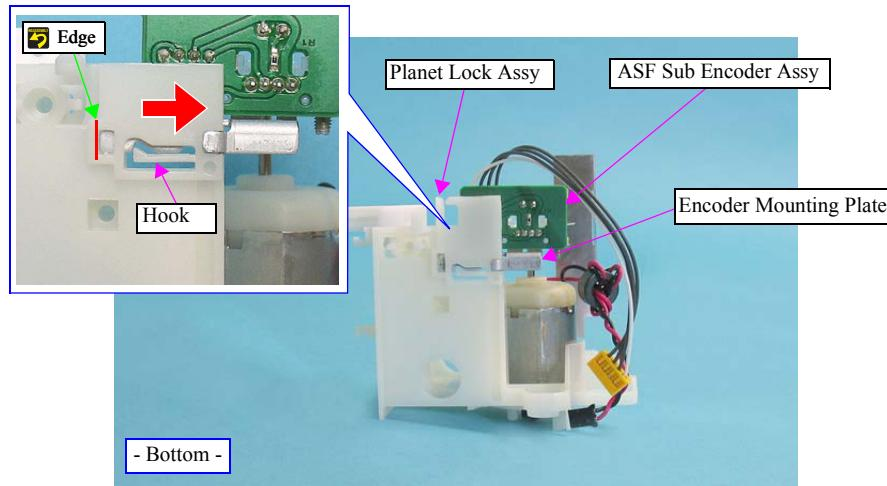

Figure 4-169. Removing the ASF Sub Encoder (1)
- When installing the ASF Sub Encoder Assy to the Planet Lock Assy, note the following points referring to Figure 4-169.